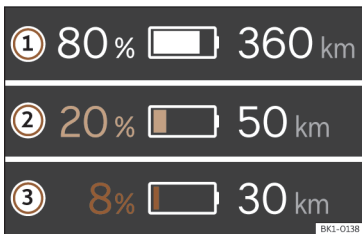

Fig. 3 On the digital instrument cluster: range and reserve indication.
The current state of charge of the high-voltage battery is indicated by the symbol on the digital instrument cluster >>> **Fig. 3** ①. The battery symbol will be more or less full depending on the state of charge of the battery.
The vehicle range is displayed in kilometres (km) or miles (mi) depending on the selected setting >>> **Fig. 3** ②.
Reserve area >>> **Fig. 3**